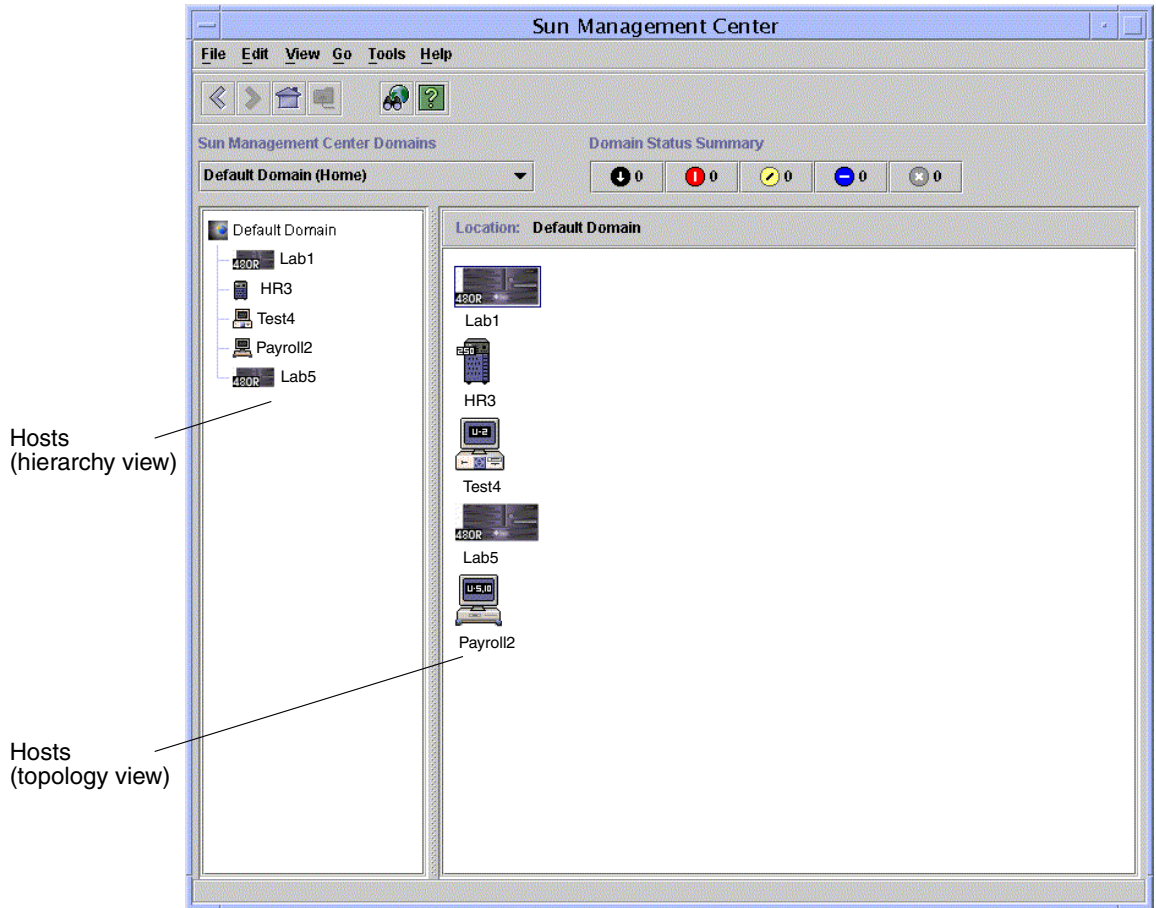

FIGURE 3-2 Sun Management Center Main Console Window
The Sun Management Center main console window is displayed (FIGURE 3-2).
1. **Locate the host you want to test in the Sun Management Center main window (FIGURE 3-2).**